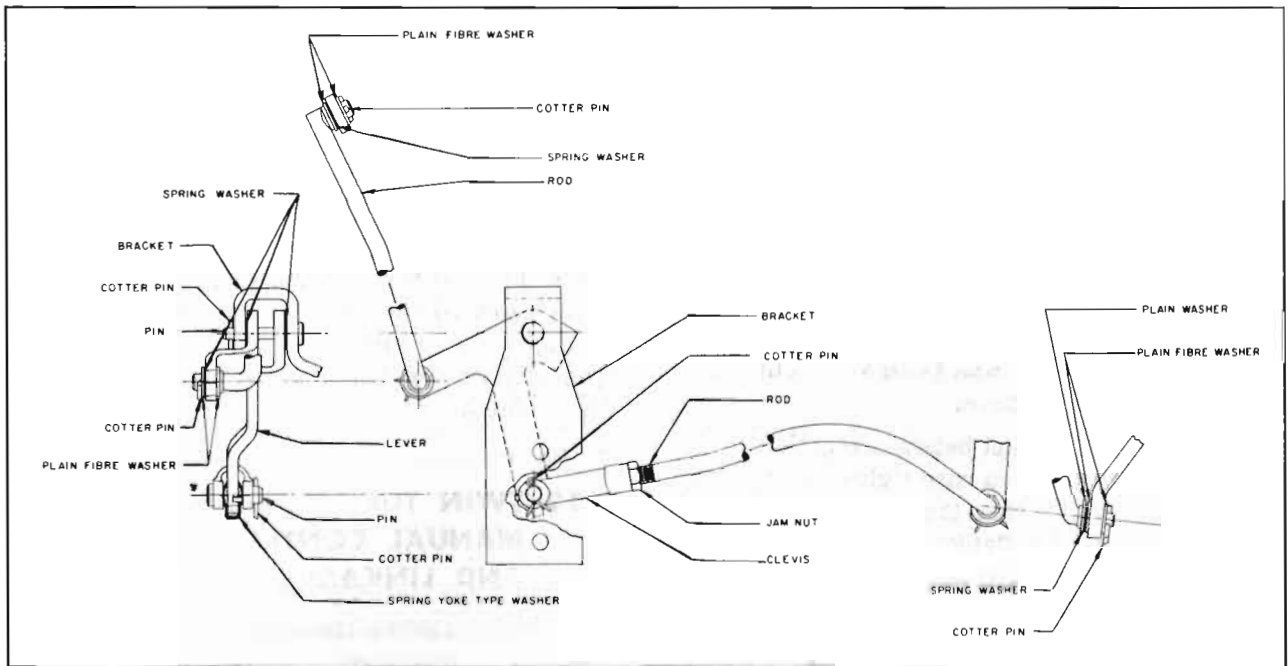

Figure 5-27—Shift Linkage.
2. Loosen clevis lock nut. Remove clevis pin along with cotter key and spring washer. See Figure 5-27.
8. Park car on ramp or other grade with control lever in Parking (P) position to determine whether parking lock holds securely. Then let car roll with control lever in Neutral (N) position and listen for a clicking or ratchet noise which would indicate that parking lock pawl is contacting the parking lock ratchet wheel.